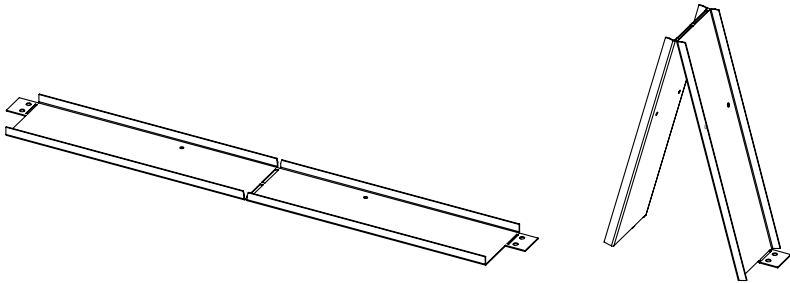

Figure 30: Top Standoff Shape
1. Bend top standoffs by hand to form general shape (see Figure 30).